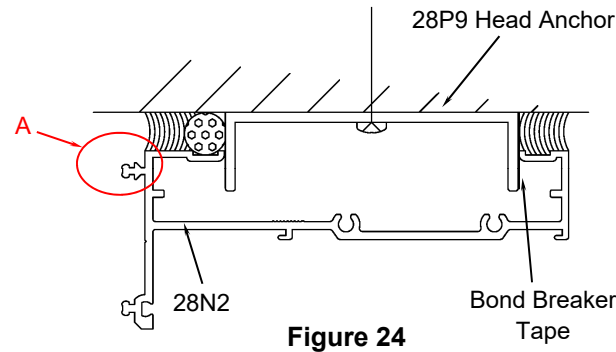

Figure 24
- If you are using 28P9 head anchors, use bond breaker tape on the interior leg of the anchor as shown in figure 24.
- Tool off all excess sealant to ensure a good seal and to achieve an appropriate appearance. **Be careful** to not get sealant around the cover nubs indicated by the circled areas marked "A" in figures 24 and 26. Excess sealant in this area may interfere with the application of the cover.